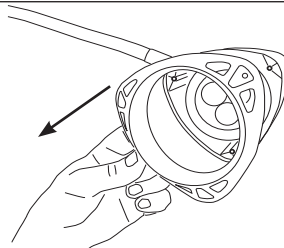

Figure 2. Remove Bezel
3. Pull bezel from lighthead (figure 2).